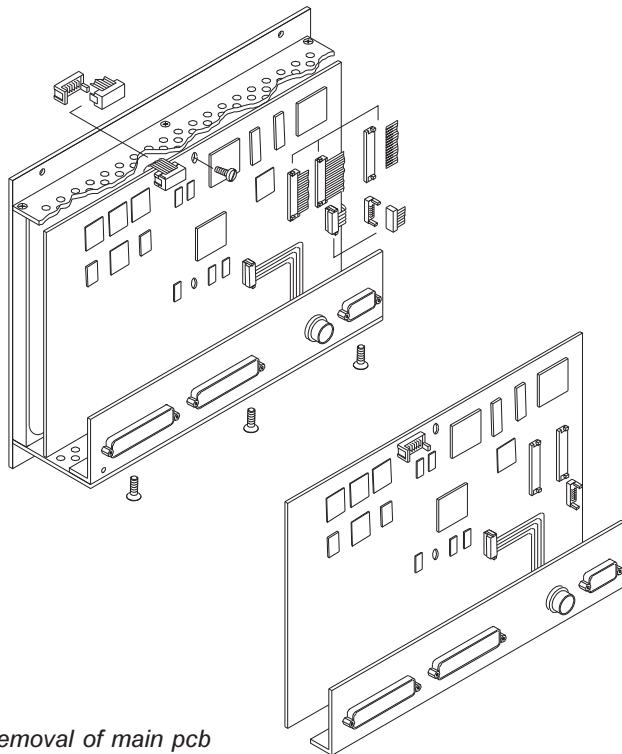

Fig. 8-15: Removal of main pcb
5. Take out flat cables after carefully loosening the locker. Take out all other flat cables as well (fig. 8-15).